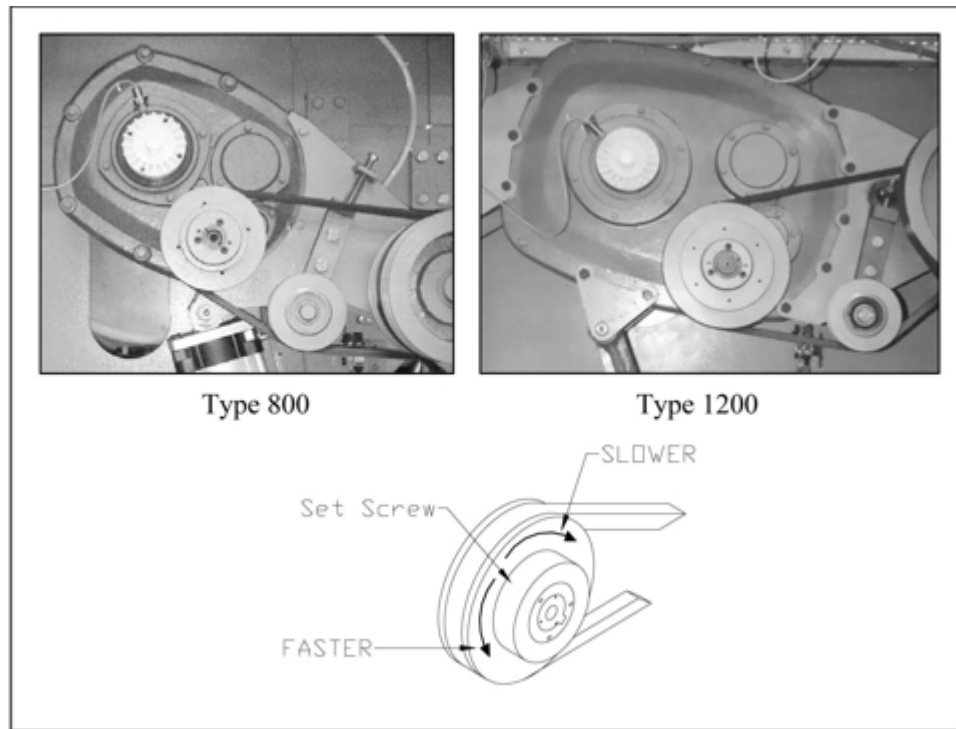

Figure 5.13: Roll Procession Adjustment
5. Turn outer flange as required in 30 degree (rotate 12 o'clock to 1 o'clock for 30 degrees of rotation) steps. See figure 5.13 on page 53